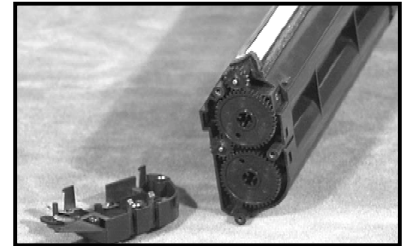

Figure 15
9. Do not remove the gear assembly on the side of the cartridge (fig. 15). It is next to impossible to reassemble.